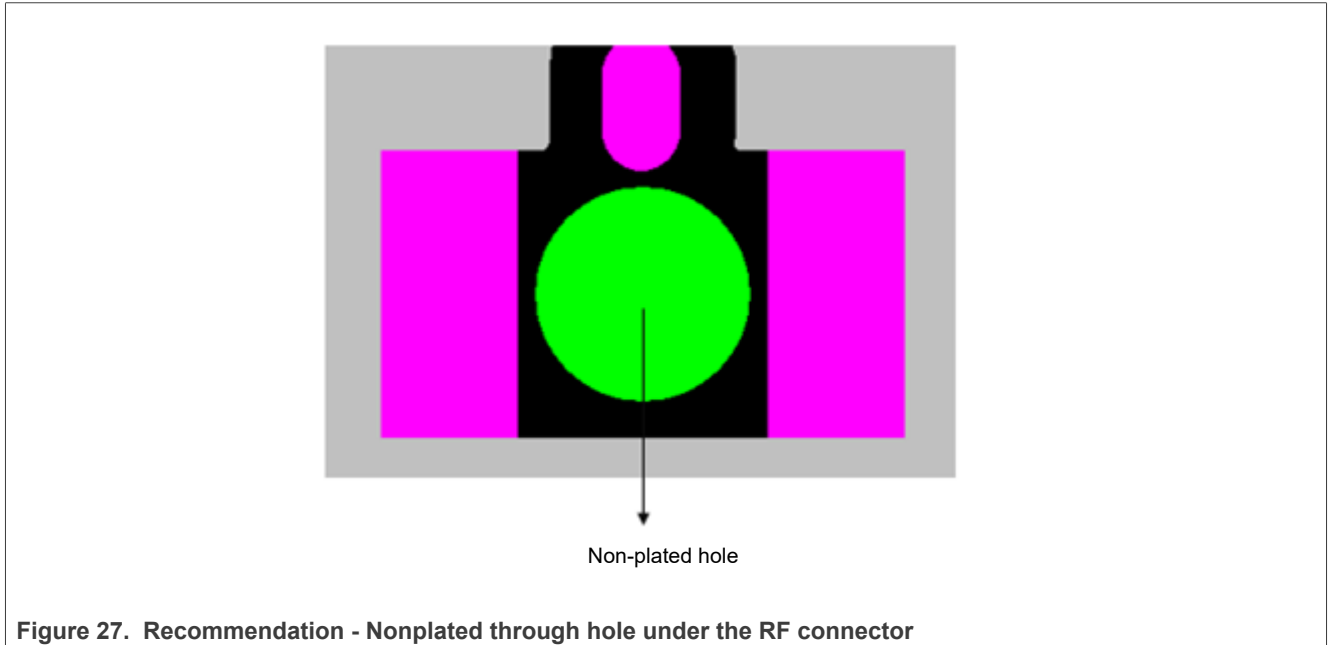

Figure 27. Recommendation - Nonplated through hole under the RF connector
- Place (recommendation) a nonplated through hole under the RF connector to minimize the insertion loss as shown in Figure 27.